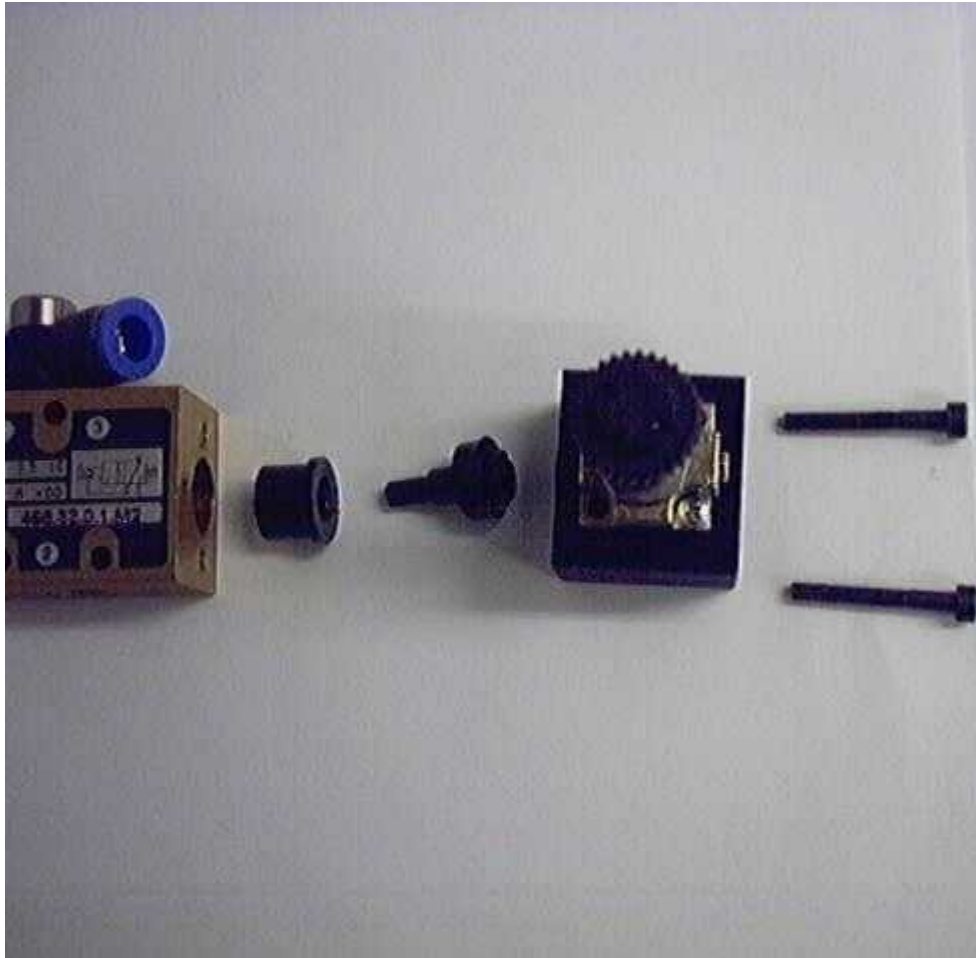

Figure 4. Details the right hand side of the Valve Assembly
9. If it is necessary, remove the right hand side of the Valve. This is done by again removing 2 x M3 bolts located on the right hand side of the valve as shown in Figure 4.